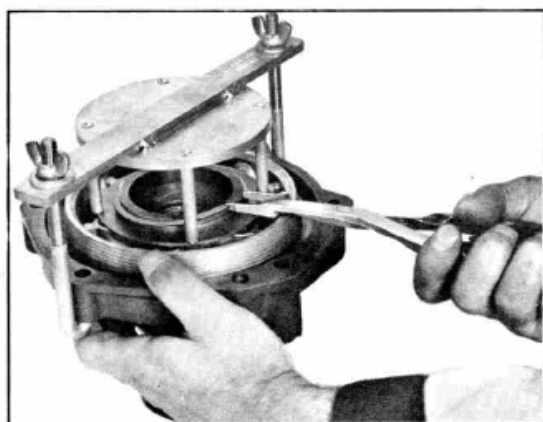

Figure 22
7. Using Clutch Spring Compressor Tool J-4670, compress reverse cone clutch release coil springs and remove the large snap ring, Figure 22.
15. Install the reverse clutch coil spring retainer and compress the springs with the Clutch Spring Compressor Tool J-4670. See Figure 22.